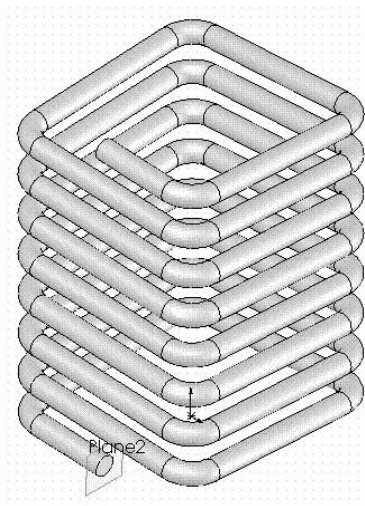

Figure 13 - Square spring feature
34. The square spring feature is shown in Figure 13